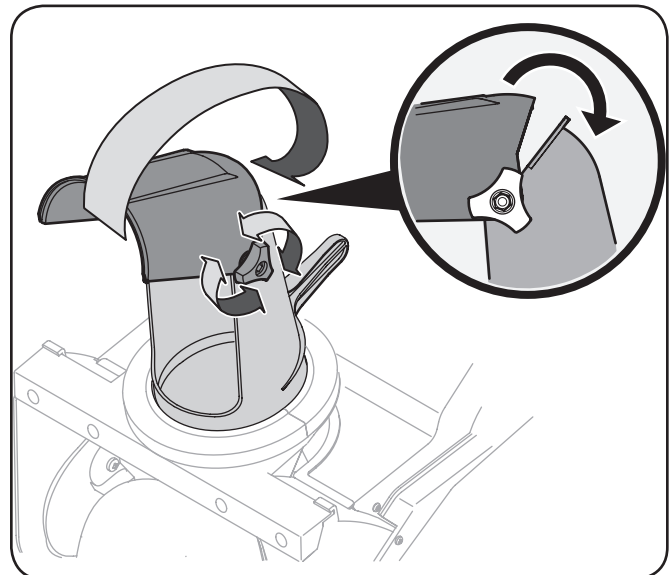

**Figure 3-5**
3. Position the loop over the clips found on the strain reliever and pull down until the cord fits snugly into the clip. See Fig. 3-5.
4. Plug the snow thrower power cable into the extension cord. See Fig. 3-5.